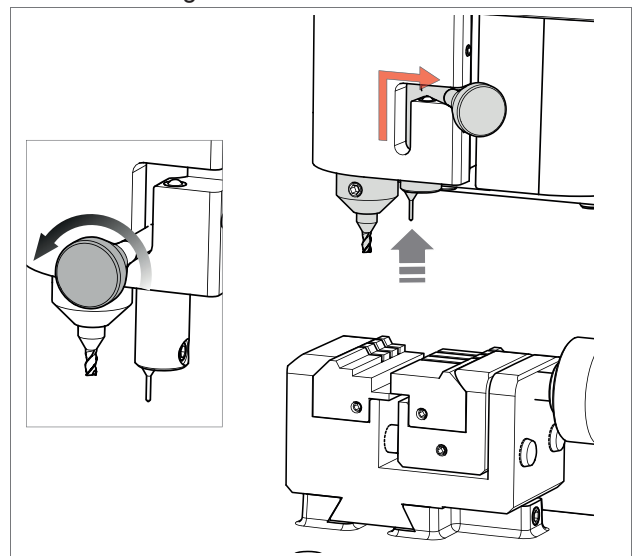

Fig. 34
- **EXCLUDING THE TRACER 01T (Fig. 34)**
NOTE: for cutting and/or decoding operations with the tracer point 02T, the tracer 01T must be in the idle position (Fig. 34). REPLACE THE 02T TRACER WITH THE REQUIRED CUTTER PRIOR TO ATTEMPTING TO CUT A KEY.